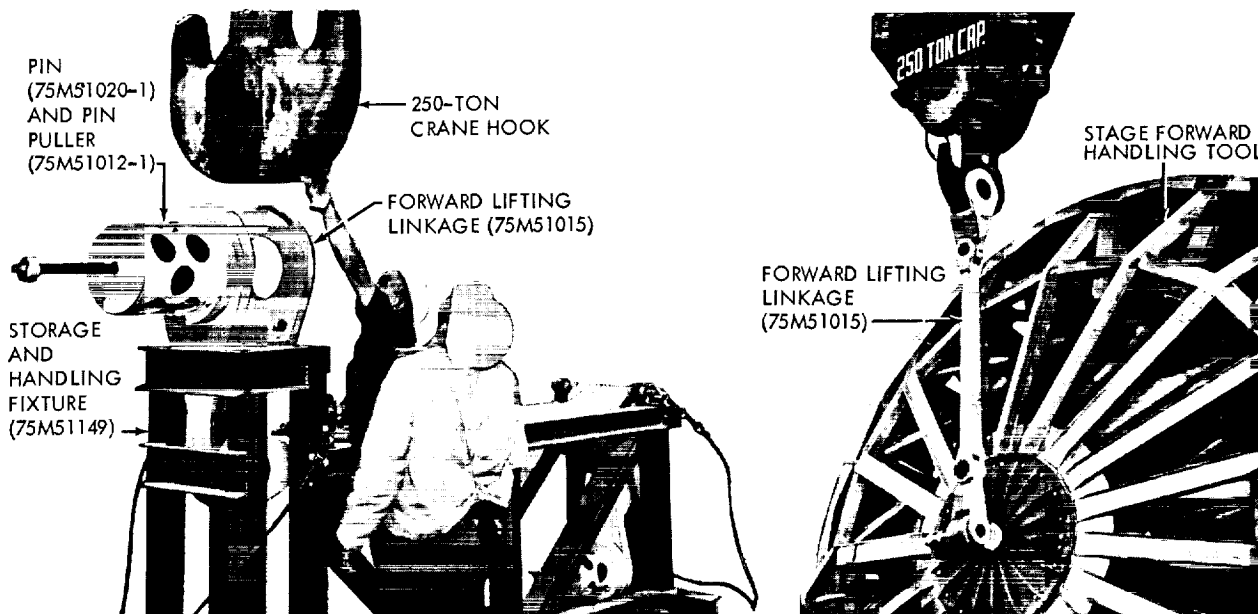

Figure 4-4. Forward Lifting Equipment
- m. Attach forward lifting linkage (75M51015) to a 250 ton crane hook at the forward end of S-IC stage per figure 4-4. Use previously installed 9 1/2 inch pin (75M51020-1) and pin puller (75M51012-1).